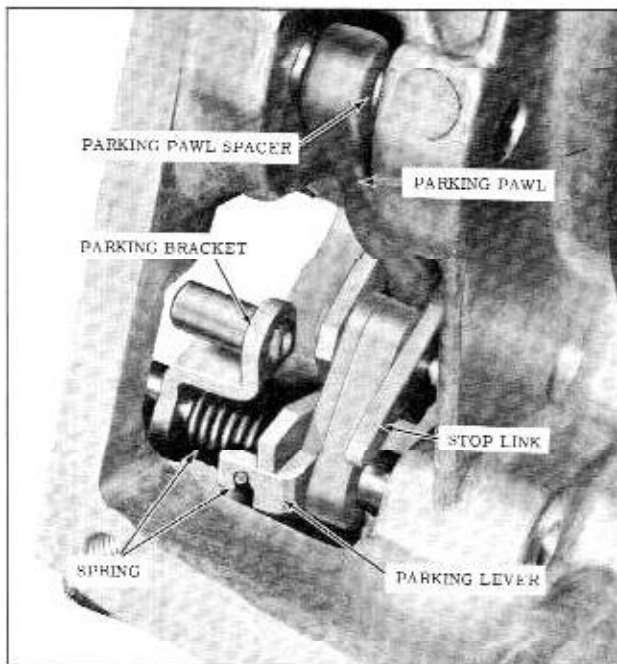

Fig. 3-112 Parking Pawl Assembly
PARKING PAWL LINKAGE (Fig. 3-112)
5. Hook spring on parking lever, holding stop against pin. (Fig. 3-112)